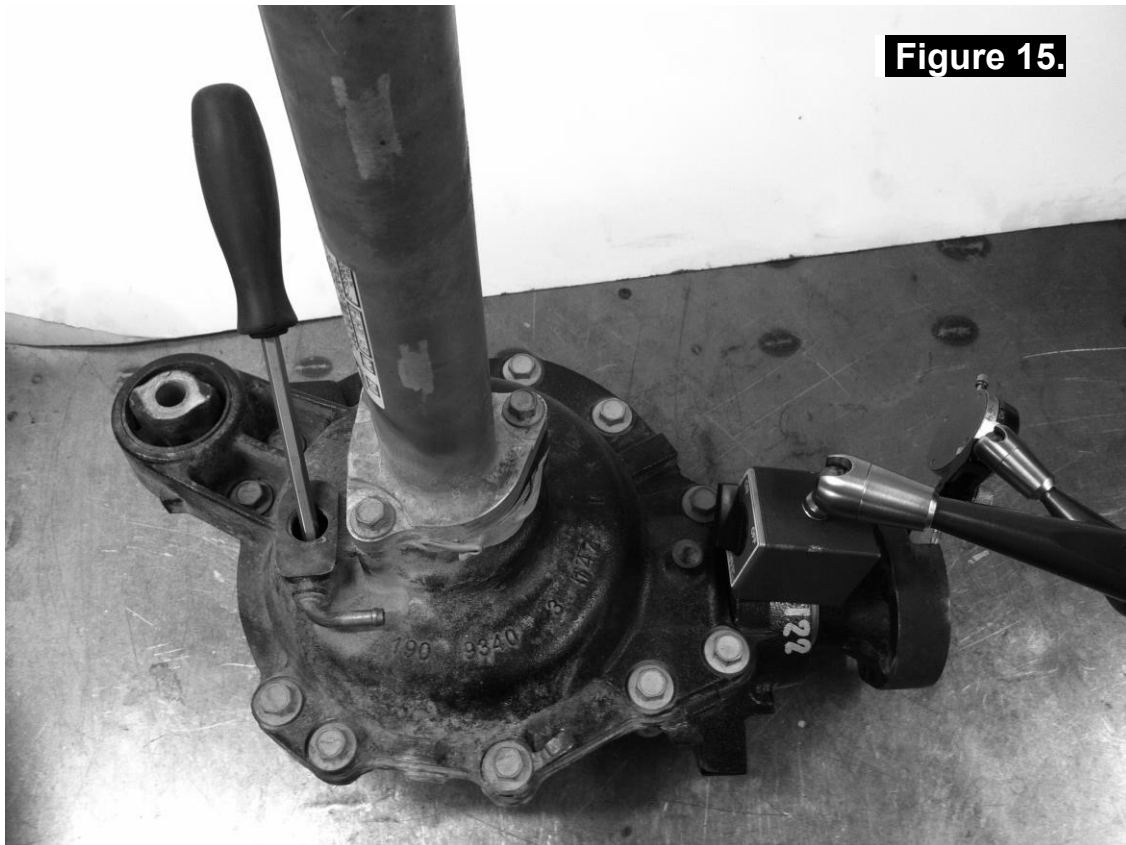

Figure 15.
- ☐ Insert a large flat screwdriver or pry-bar through the oil fill hole so that you can stop the differential from rotating (Figure 15.)